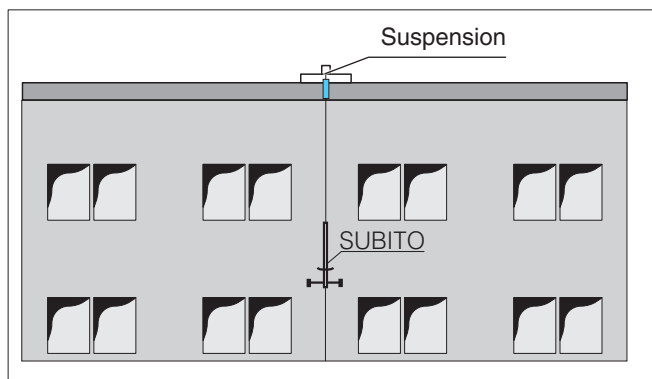

Fig. 10 - Bring the seat directly into line with the suspension
Make sure that the suspension is placed directly in line with the stirrup of the equipment (Fig. 10).
3. Bring the seat directly into line with the suspension (Fig. 10).